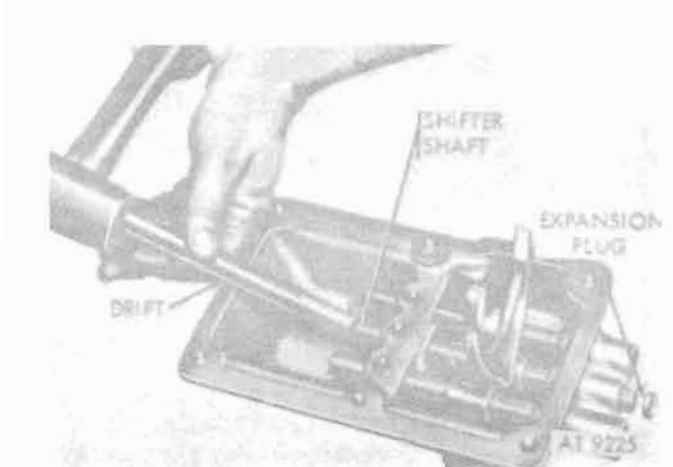

Figure 8-92. Housing shaft bore expansion plug.
e. Drive third- and fourth-gear shaft further rearward and remove housing shaft bore expansion plug (fig. 8-92).